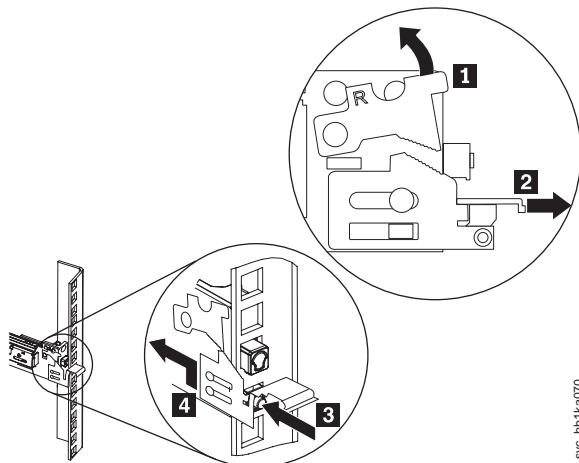

Figure 47. Removing the SAN Volume Controller 2145-CF8 slide rails from the rack
- a. To remove the slide rails from the front of the rack, push up the front tab (**1** in Figure 47) and slide out the front latch **2**.